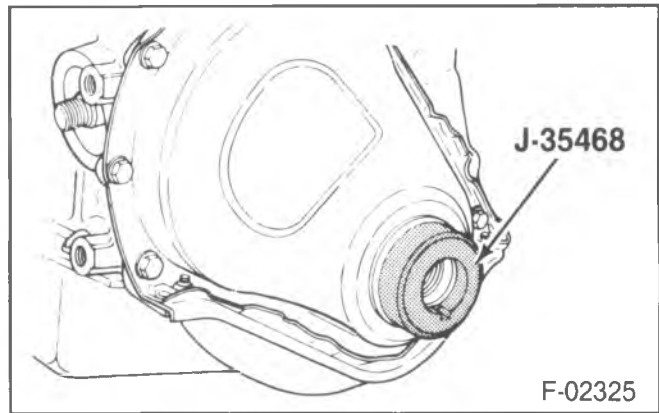

Figure 17—Installing The Timing Gear Cover And Seal
Install or Connect (Figures 17 and 18)
1. Front crankshaft seal. Use J-35468 (figure 17). Coat the seal lips with engine oil. The open end of the seal faces inside the engine.
Install or Connect (Figures 17, 19, and 20)
4. Timing gear cover, with J-35468 in place, to the block (figure 17).